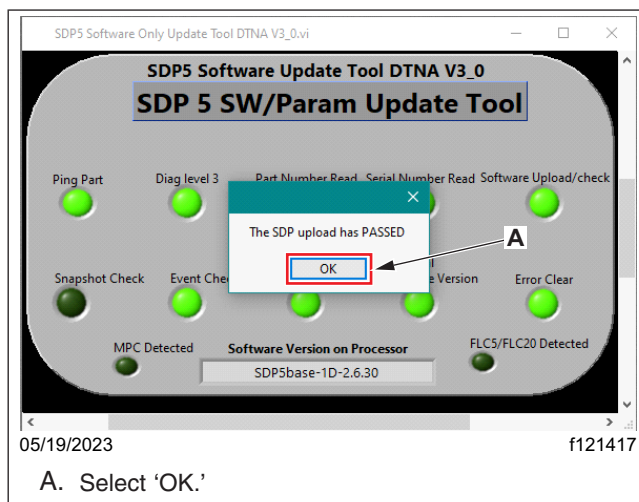

Fig. 30, Software Upload Complete
16. A pop-up window saying 'The SDP upload has PASSED' appears. Select 'OK.' See Fig. 30.